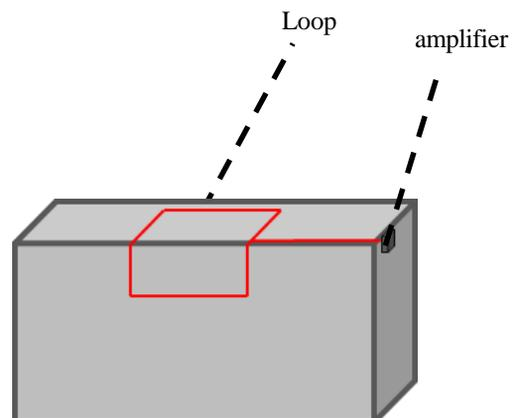

Figure 1.
1. Place the loop on the vertical and horizontal portion of the counter as shown in figure 1. This type of installation ensures better coverage in front of the counter.